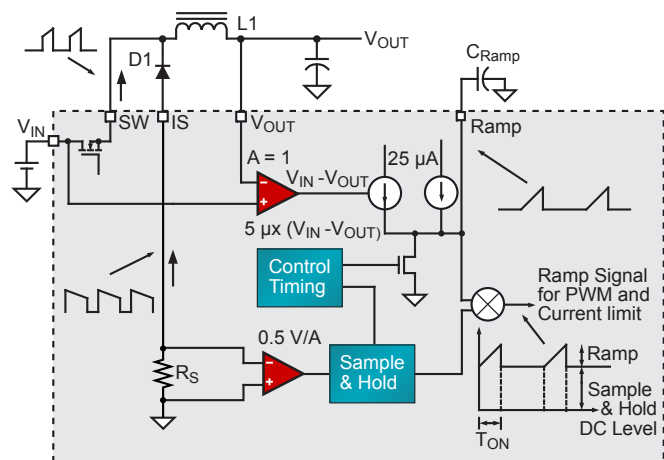

Figure 2. Emulated current-mode regulator.
Propagation delays and switching transients make it difficult to use current-mode control for large conversion ratio applications where very small on-times are required. Even with the best design practices, current sense and level shift circuits will add significant propagation delay. In addition, when the buck switch turns on, the reverse recovery current into the free-wheeling diode (D1) causes a leading-edge current spike with an extended ringing period (See Figure 2.) This spike can cause the PWM comparator to trip prematurely. Attempts to filter or blank this leading-edge spike reduces the minimum controllable on-time of the buck switch.
**Figure 2** presents the block diagram of the LM25005, an integrated buck regulator that implements the emulated current-mode control scheme described above. The free-wheeling diode anode is connected to ground through the controller. A small-value, current-sense resistor and amplifier are used to measure the diode current. A sample-and-hold circuit captures the minimum level diode current just prior to the turn-on of the buck switch. Sampling the valley current, each cycle provides the pedestal portion of the emulated current sense signal.